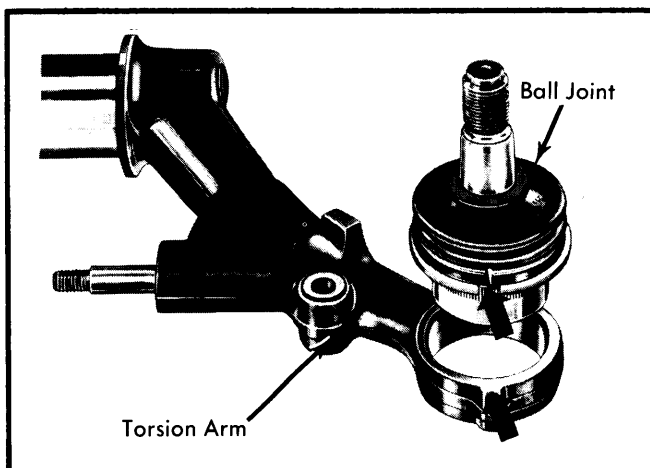

**Fig. 2** Removing Upper Ball Joint from Steering Knuckle
2) Remove splash shield from steering knuckle. Take off lower ball joint nut and press joint from knuckle. Remove upper ball joint nut, then with suitable wrench, turn camber eccentric adjusting bushing until joint is free from knuckle. See Fig 2.